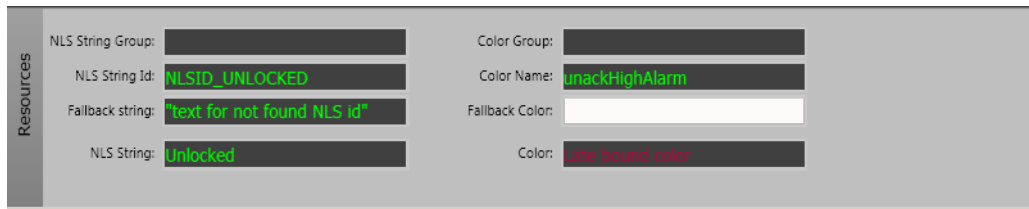

Figure 175. Resources
2. Drag and drop **Text** primitives (**Toolboxes > Graphic Primitives**) into the edit panel. Label the primitives as **NLS String Group**, **NLS String Id**, **Fallback String**, **NLS String**, **Color Group**, **Color Name**, **Fallback Color**, and **Color** as shown in Figure 175.